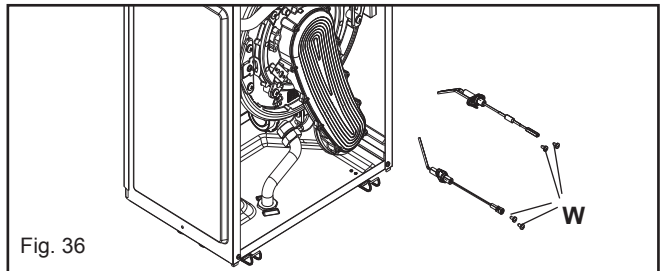

Fig. 36
6.13 ELECTRODES & CONDENSE SENSOR (fig. 36)
Carry out component removal procedure as described in 6.4. Unclip and remove the air chamber front and the RH side covers. Slacken the gas pipe (**A1**) at the air box connection and swing/rotate of the fan assembly. Locate and remove the 3 internal nuts (**F1**) which secure the fan assembly in position to the heat exchanger (**G1**). Disconnect the electrode leads and ancillary wiring from their respective connectors. Remove the retaining screws (fig. 36) for sensing electrode and remove. Gently ease the fan assembly out of its location. Ensure the seal is in good condition, taking care to ensure it is placed correctly. Replace in the reverse order.
Carry out component removal procedure as described in 6.4. Unclip and remove the three air chamber covers (front, LH, RH sides). Disconnect all the wiring connections. Fig. 36: Slacken the gas pipe (L1) at the air box connection and swing/rotate of the fan assembly. Disconnect the flow (M1), return (N1) and condense connections on the heat exchanger. Remove fan and mixer as described in 6.14. Locate and remove the 2-screws that secure the heat exchanger retaining clips and remove clips (O1). Pull the heat exchanger forward and disconnect it from the flue collector (P1). The heat exchanger can now be withdrawn from the appliance.